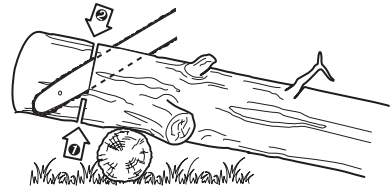

Fig. 31
2. When the log is supported on one end (Fig. 31), cut 1/3 the diameter from the underside (underbuck). Then make the finished cut by overbuck to meet the first cut.